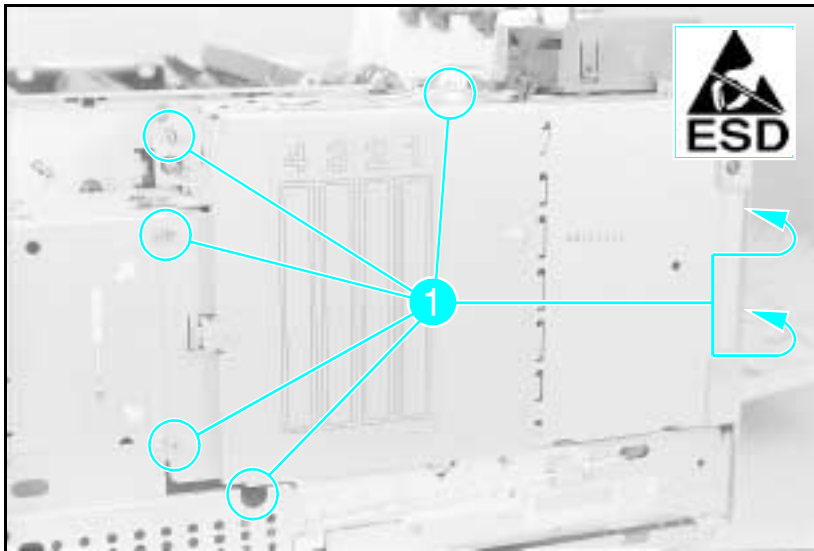

Figure 6-24a Formatter Cage Screws (Right Side View - LaserJet 4 and 5)
- 2 **LaserJet 4 and 5:** Remove the (7) screws (6 screws in the LJ 5) shown in Figure 6-24a. (2) screws are on the right rear of the printer, (1) screw is under the lower front of the Formatter Cage (except LJ 5).